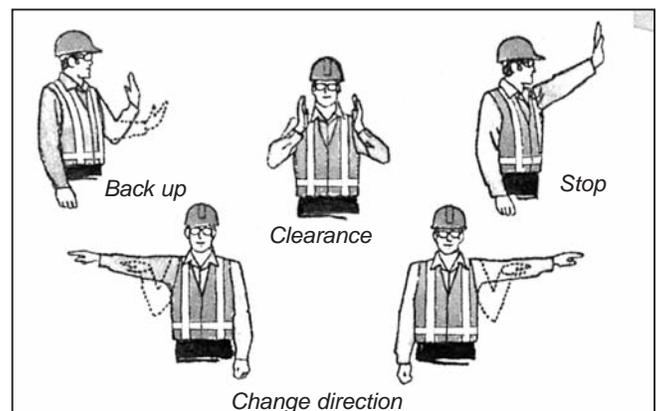

Figure 1. Hand Signals for Traffic Control
- A truck backing up should be directed by a competent signaller using established signals (Figure 1).